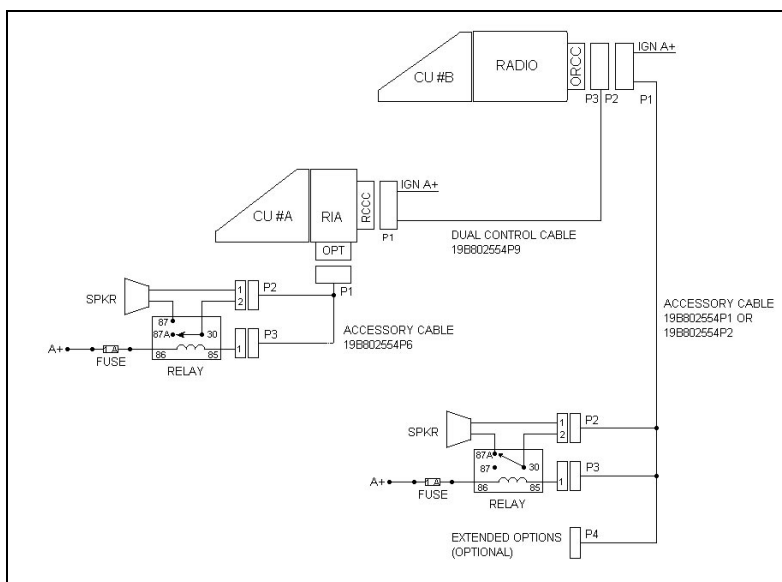

Figure 33 - ORION Dual Control Unit Front Mount/Remote Mount Installation Configuration
The Dual Control feature can be configured for either front mount or for remote mount Radio Units. Each configuration provides for a Main Control Unit and an Auxiliary Control Unit. In the front mount configuration, the Main Control Unit is on the Radio Unit itself (see Figure 33), with the Auxiliary Control Unit located in a convenient location. In remote mount configuration the Main Control Unit is typically located in the vehicle cab, with the Auxiliary Control Unit located in a convenient location (see Figure 34).
1. Referring to Figure 33, run the Dual Control Cable (19B802554P9) between locations for the Radio Unit and Auxiliary Control Unit. Be sure to locate the P2/P3 connector assembly at the Radio Unit.
9. Radio Unit Speaker: Connect the lead nearest the speaker to Pin 87A of the relay. Connect the lead nearest the connector to Pin 30 of the relay. Connect the connector to the Accessory Cable P2 (Refer to Figure 33).
connector to Pin 30 of the relay. Connect the connector to the Accessory Cable P2 (Refer to Figure 33).
11. For each relay: Connect a #18 AWG black wire between the relay, Pin 85 and Accessory Cable P3-1 (labeled **“OUT2”** on the schematic diagrams in the service manual). Use a 1/4” tab receptacle on the relay side and mating Molex connector and pins on the accessory cable side. Connect the mating Molex connector to the Accessory Cable P3 when finished (Refer to Figure 33).
12. For each relay: Connect a #18 AWG red wire to the relay, Pin 86. Cut to length, and connect to the 1 amp fuse holder supplied. Use crimp on connectors supplied. Connect the other side of the 1 amp fuse holder to A+ battery source or vehicle A+ fuse block. Use #18 AWG red wire and ring lug supplied., if needed (See Figure 33).